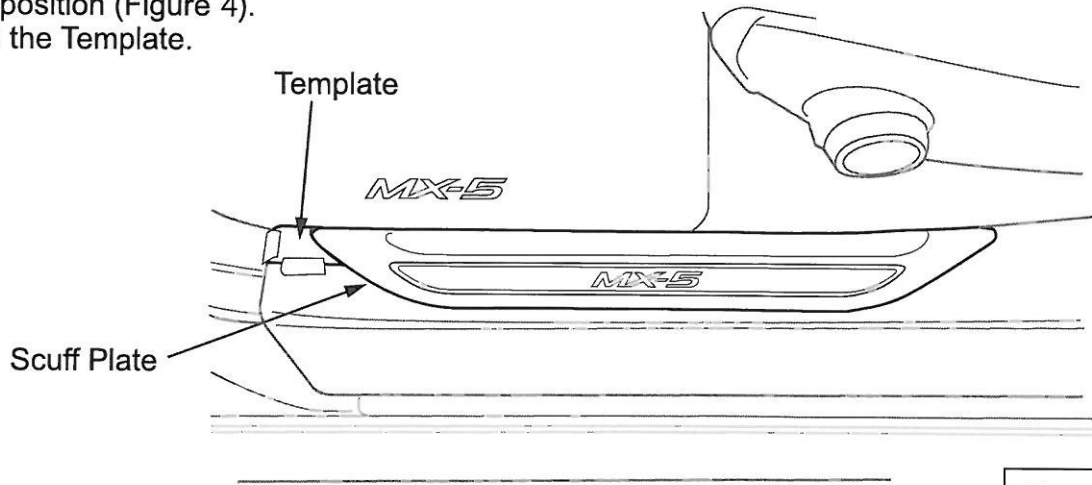

Figure 4
- A. Carefully align Scuff Plate with the Template and press down flat into position (Figure 4).